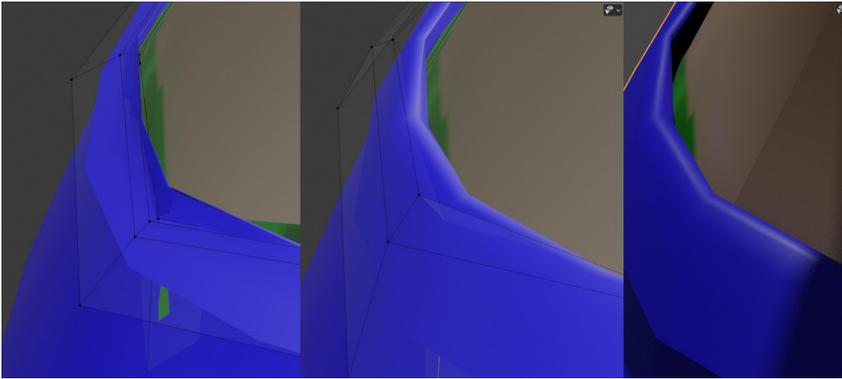

Figure 7-5 Tweaking vertices to fix the bevel for subdividing
16. Bevel the mesh by switching to Edit mode and selecting the vertices along the inside edge of the collar. Then select **Edge ▶ Bevel Edges**, move the mouse to create the bevel then LMB to fix the it. Don't worry about getting the right amount for the bevel as you will now open the Adjust Last Operation pane and alter the Width to **0.01** and Segments to **3**. You will have to adjust these values to suit your model, in my case I found that the shrinkwrap modifier was pushing the underlying mesh through the layer above. Even then I needed to tweak the vertices in a similar way to moving the control points to define the nurbs surface in Chapter 3. Figure 7-5 shows the before and after screenshots.